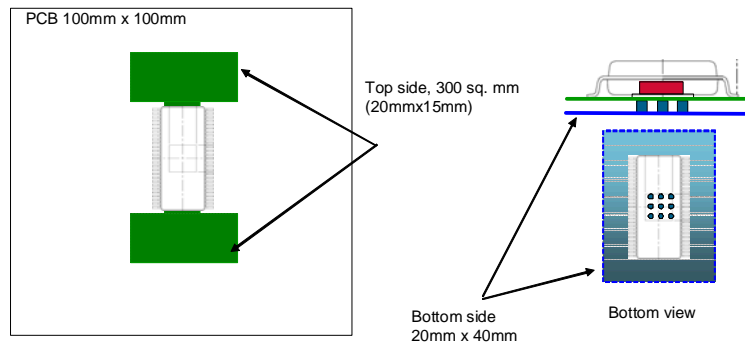

Figure 8. PCB with Top and Bottom Layer Dissipation Area (Dual Layer)
- This parameter was measured according to Figure 8 below: